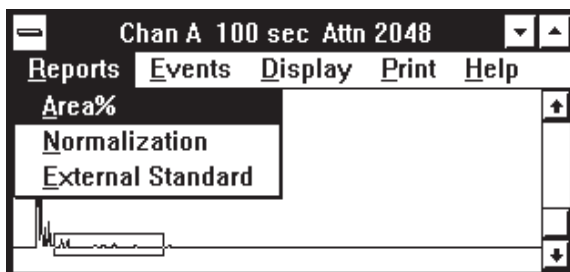

Figure 17 Reports menu
1. Using the procedure described on page 16, select the **Reports** menu in either channel A or channel B (See Figure 17).